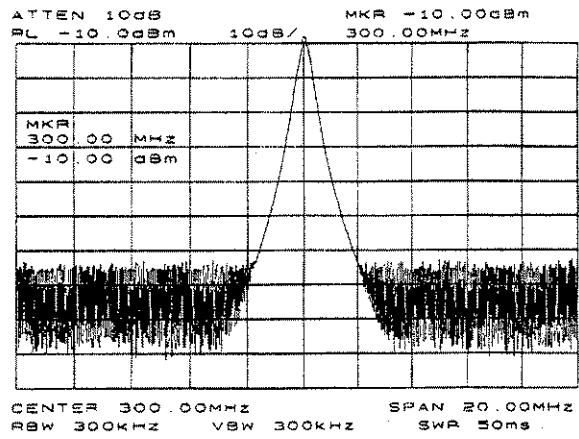

Figure 1-6. Activated Normal Marker
4. Activate the marker. Press **ON** which is located in the MARKER section of the front panel. This places a marker at the center of the trace (in this case, at the peak of the signal) and completes the measurement. The marker reads both the frequency and the amplitude and displays these values in the active function block. In this case, the marker reads 300.00 MHz and -10.00 dBm, as shown in Figure 1-6.